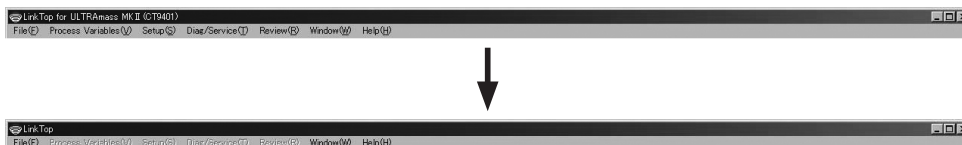

Fig.13
- ④ When connection is terminated, part of the menu turns to be inactive (characters turn to white in color) as shown in Fig. 13.